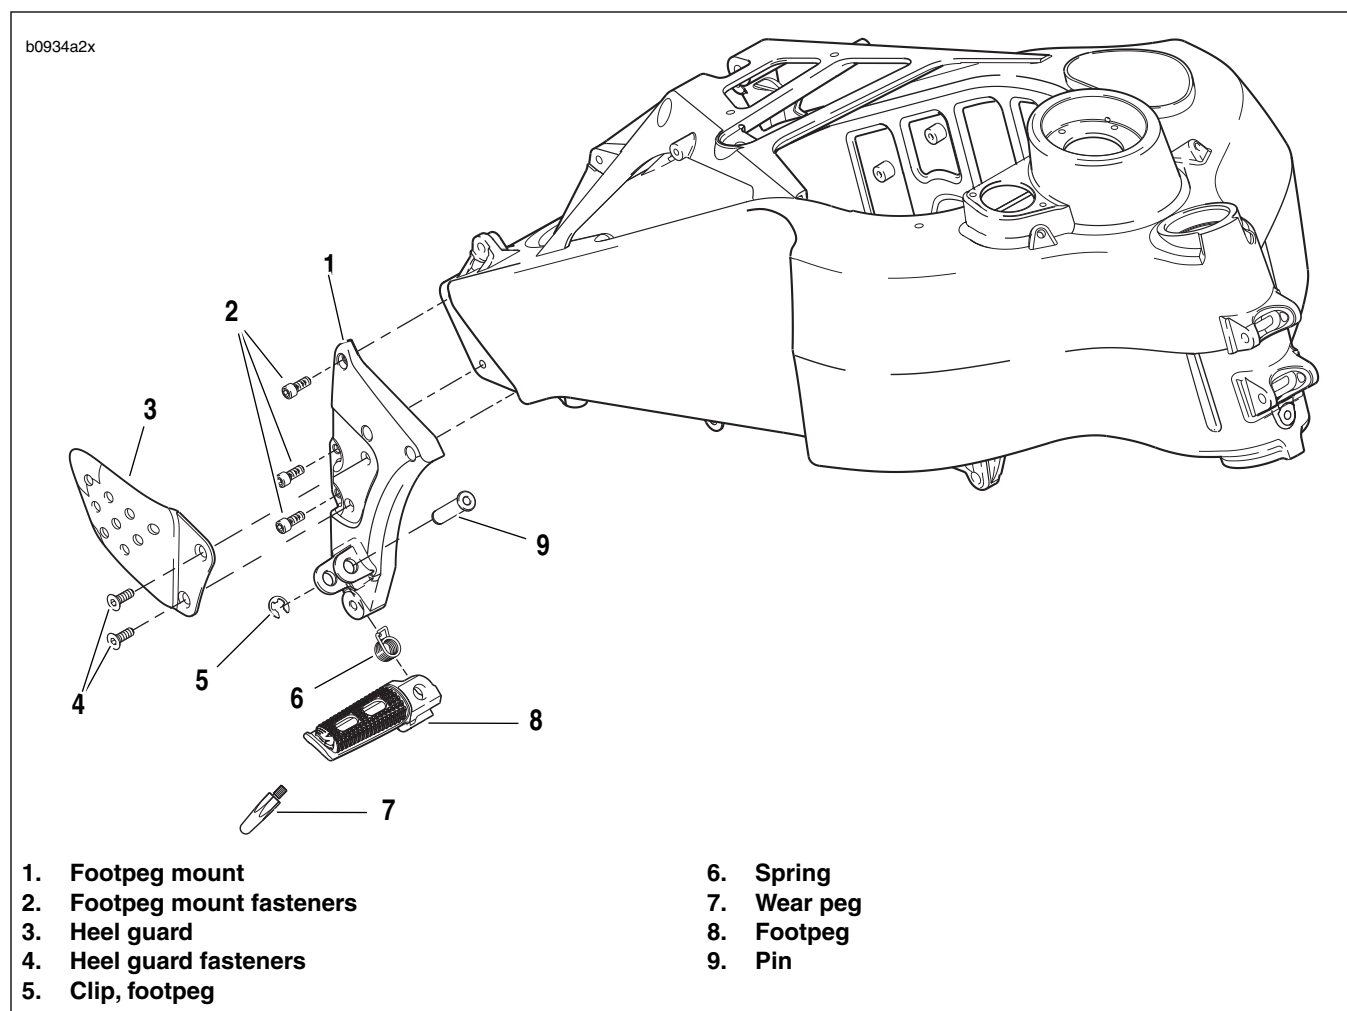

Figure 2-111. Rider Footpeg, Mount and Heel Guard Assembly
1. See Figure 2-111. Remove wear peg from end of footpeg assembly.
1. See Figure 2-111. Remove clip (5).
2. Remove footpeg pin (9).
3. Remove footpeg (8).
1. See Figure 2-111. Remove heel guard fasteners (4).
2. Remove heel guard (3).
1. See Figure 2-111. Remove footpeg mount fasteners (2).
2. Remove footpeg mount (1).
1. See Figure 2-111. Position footpeg mount (1).
2. Install footpeg mount with fasteners (2). Tighten to 108-132 **in-lbs** (12.2-14.9 Nm).
1. See Figure 2-111. Position heel guard (3) onto footpeg mount (1).
1. See Figure 2-111. Position spring (6) in footpeg (8).
2. Position footpeg (8) and spring in footpeg mount (1).
3. Install footpeg pin (9).
4. Install clip (5).
1. See Figure 2-111. Apply LOCTITE 272 (red) and tighten to 36-48 **in-lbs** (4-5 Nm).